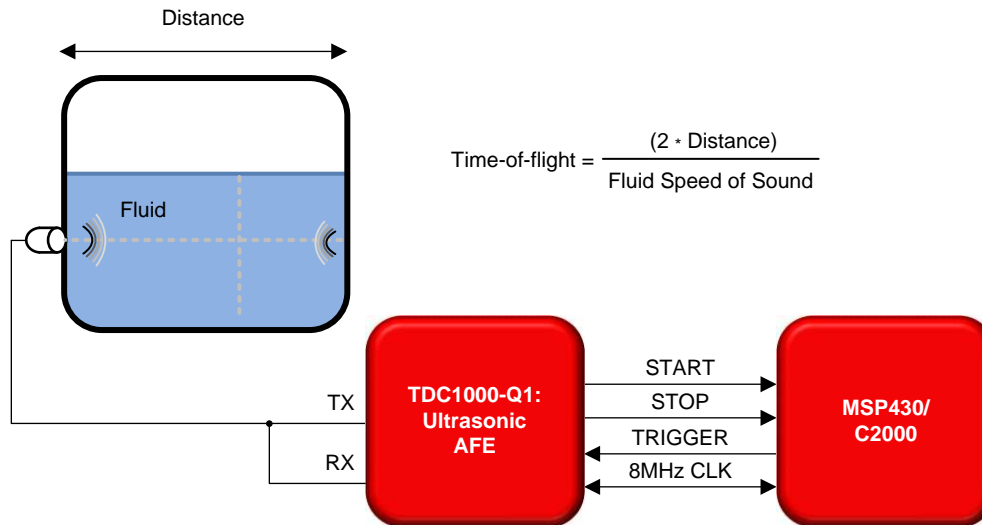

Figure 6. Fluid Identification / Concentration Using Ultrasonic
Now, let's add to that level application, and see how fluid identification (ID) works. Fluid ID is the same as fluid level detection, except that the sensor is typically mounted on the side of the tank, as shown in Figure 6.
| • Added text and URL link " For more information... " following Figure 6 | 6 |